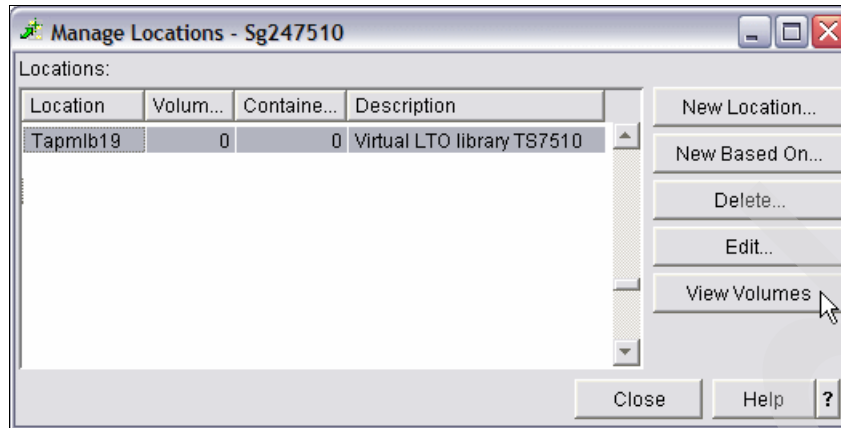

Figure 6-13 Manage Locations
5. This returns you to the Manage Locations window shown in Figure 6-13. Next, we want to see what volumes there are in that tape library.